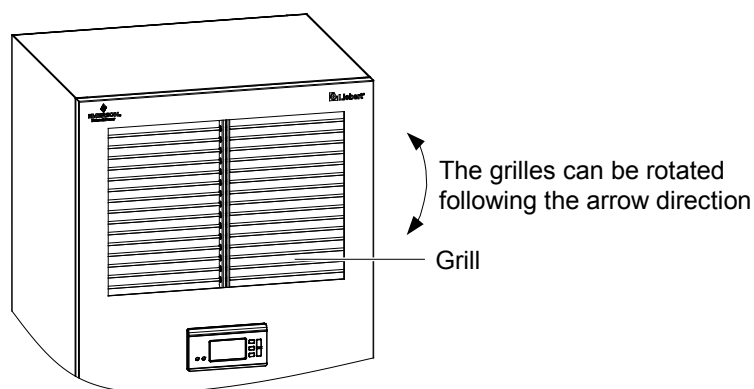

Figure 2-14 Regulating airflow direction
4. Rotate the grilles to regulate the airflow direction of the indoor unit, and the regulating angle is 45°, as shown in Figure 2-14.